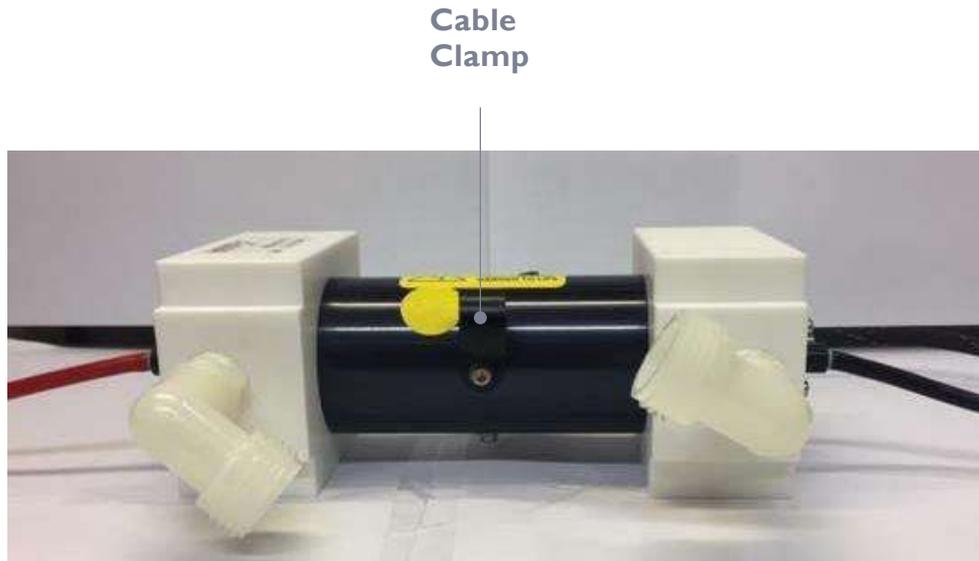

Figure 6
12. Place the pump chamber on a clean benchtop or desk surface; remove the flashlamp wires from the cable clamp and straighten each **(figure 6)**.